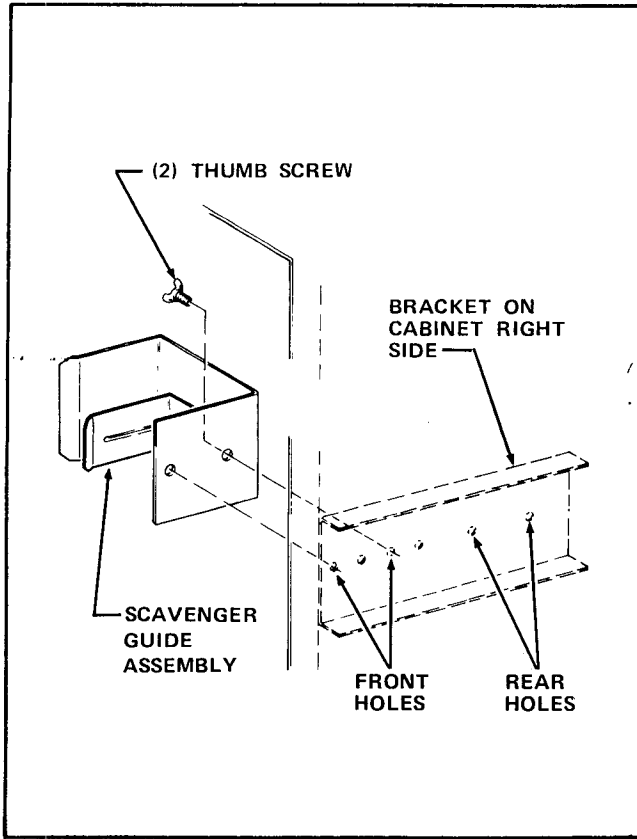

FIGURE 3-6
33. Remove two Thumbscrews and Scavenger Guide Assembly from the rear holes of the bracket on the right inside wall of the Cabinet and attach the Scavenger Guide Assembly to the holes closest to the front of the same bracket using two Thumbscrews. See Figure 3-6.